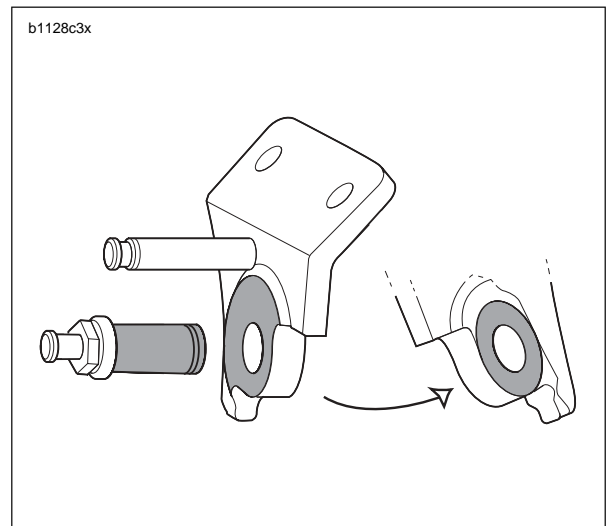

Figure 2-139. Lubricating Points (Shaded Areas)
- a. Lubricate sidestand pivot pin and mating portions on sidestand bracket with WHEEL BEARING GREASE (Part No. 99855-89) as shown in Figure 2-139.